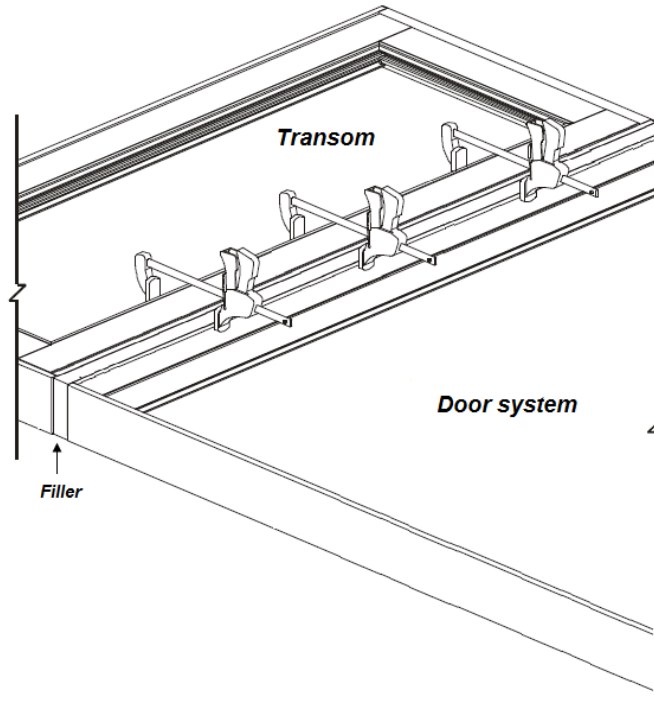

Figure 3
- Push the transom tight to the top of the door. Using clamps to hold them together. Note: make sure that the transom sets flush and tight against the top of the door jamb. Figure 3